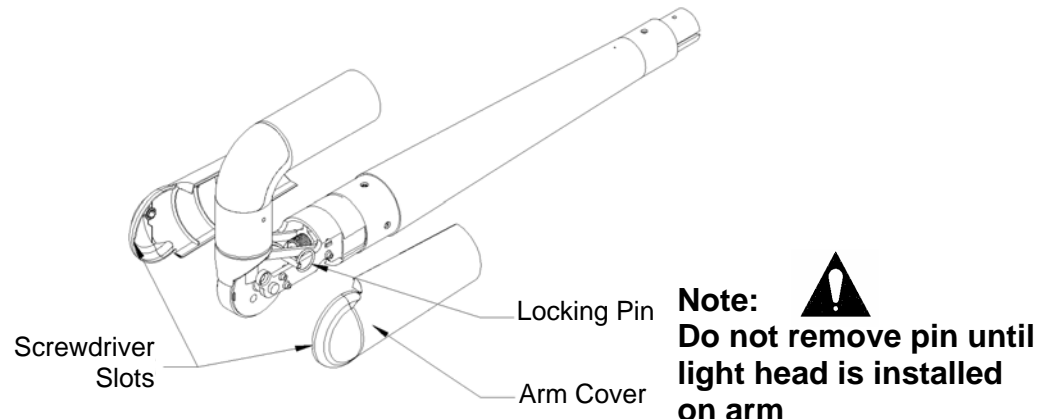

Figure 13
Note: Each arm assembly is shipped with a locking pin that prevents the arm from rotating vertically. The pin must be removed before trying to operate the arm. Slightly pull the arm down releasing tension on the pin. The pin should easily pull out. Keep pin in a safe place for further use such as normal maintenance.(See figure 13)
- Remove plastic arm cover, rotate arm to horizontal and insert locking pin.(See Figure 13 Page 21)
Note: The arm assembly is shipped with a locking pin that prevents the arm from rotating vertically. The pin must be removed before trying to operate the arm. Slightly pull the arm down releasing tension on the pin. The pin should easily pull out. Keep pin in a safe place for further use such as normal maintenance.(See figure 13, page 20)